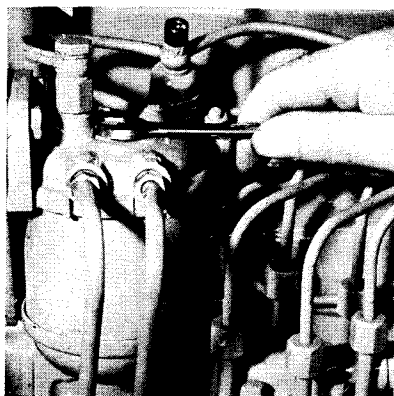

Fig. 11
2. Unscrew setscrew at top of filter bowl. (See fig. 11).